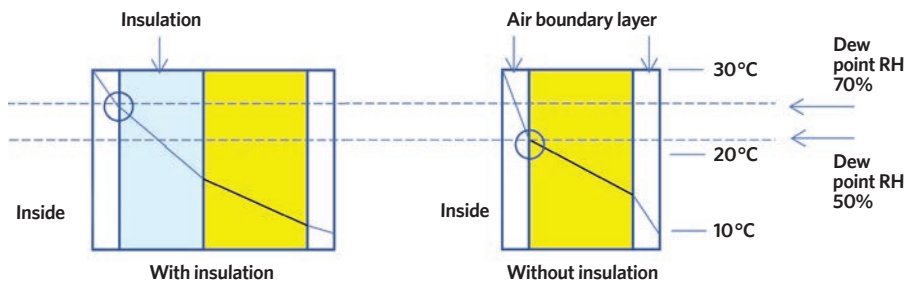
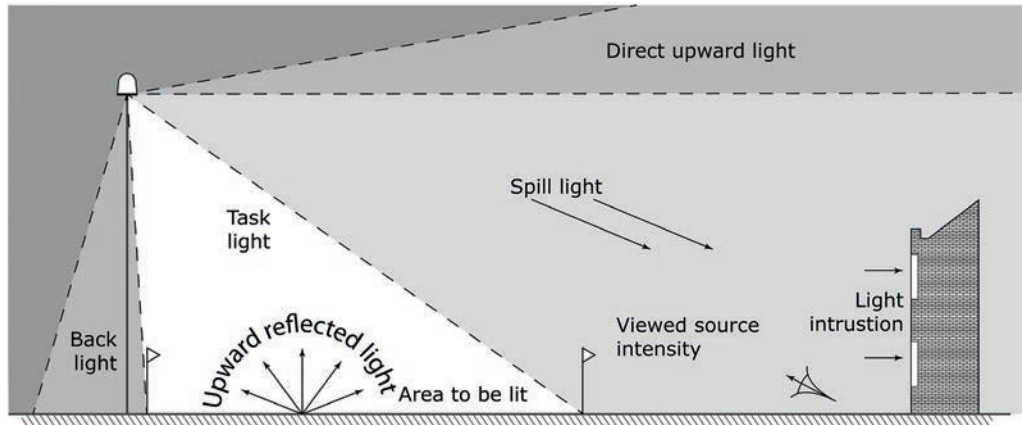
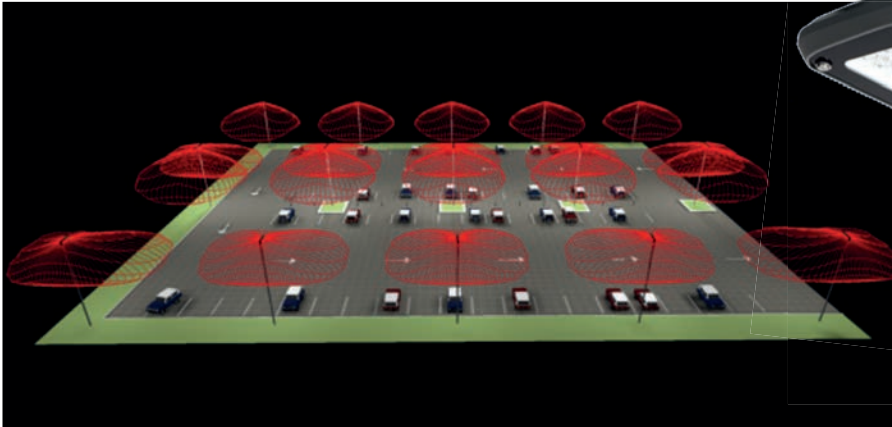

Figure 4: Temperature profiles with and without insulation
Figure 1: Categories of intrusive light (Source: ILP Guidance Notes 01/21³)
Figure 2: Example scheme for external car park, based on 12m height at 23m x 35m spacings
These savings arise through blowing out less warm, energy-rich air containing all the latent heat of the evaporated water. This effectively doubles the financial case for insulation. Figure 4 shows the hypothetical temperature profiles across the pool-hall wall with and without insulation.
'Light trespass' (alternatively described as 'light intrusion', as illustrated in Figure 1) is a local phenomenon where a significant amount of light crosses a property boundary and impacts on the ability of the property owner to enjoy the use of their property – such as where a nearby streetlight shines through a bedroom window. In the UK, light is recognised as potential statutory nuisance in the Clean Neighbourhoods and Environment Act (2005), although some facilities are exempt.
Optics can also ensure that only the required areas are illuminated, with no backlight or spill (as illustrated in Figure 1). With enhanced illumination control, the space may be utilised more efficiently. For example, BS 5489-9:1996 *Road lighting – Part 9: Code of practice for lighting for urban centres and public amenity areas*⁶ reaffirms that containing lighting within the curtilage of car parks, such as that illustrated in Figure 2, is important for both energy saving and to avoid light pollution. This would require carefully selected luminaires, most with asymmetric optics, with the front glazing kept at, or near, horizontal and so parallel to the ground.
Figure 4: An example of a luminaire with symmetric polycarbonate micro-optic with glass cover that could be employed in the core zone of the car park shown in Figure 2
4. How many luminaires were used in the design illustrated in Figure 2?